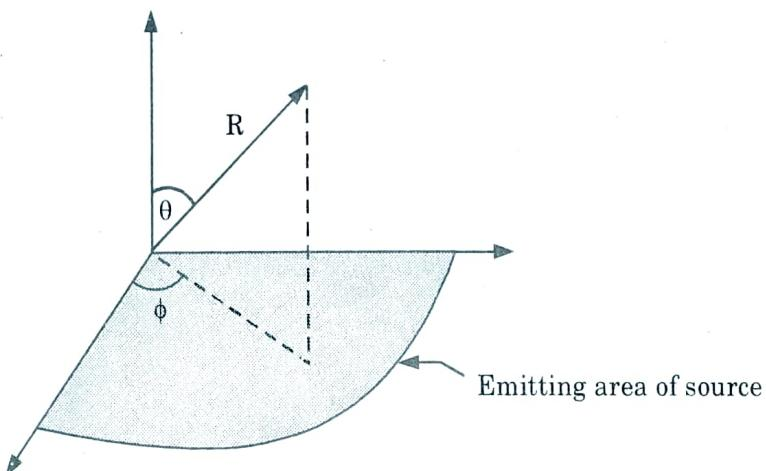

Fig. 4.1.1. Dimensional spherical co-ordinate system.
2. Fig. 4.1.1 shows three dimensional spherical co-ordinate systems for characterizing the emission pattern from an optical source. Where the polar axis is normal to the emitting surface and radiance is a function of θ and ϕ .